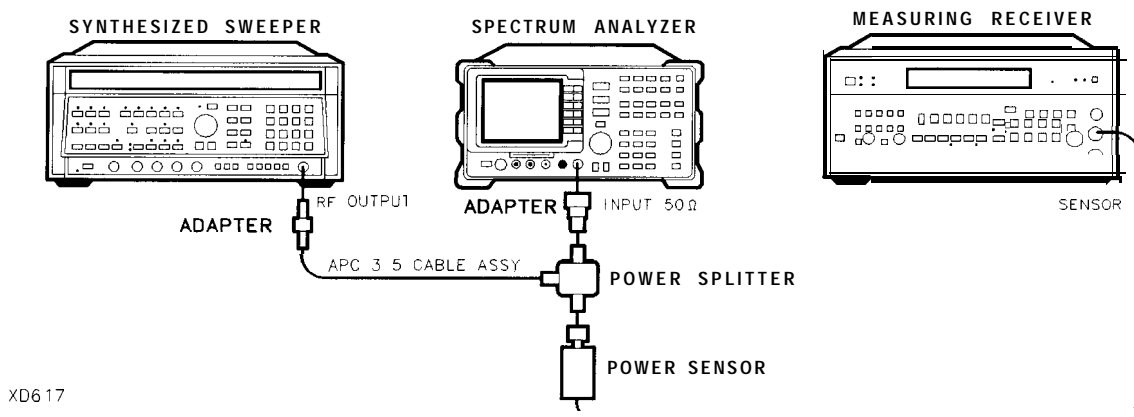

Figure 2-30. Frequency Response Test Setup,  $\geq 50$  MHz
2. Connect the equipment as shown in Figure 2-30.